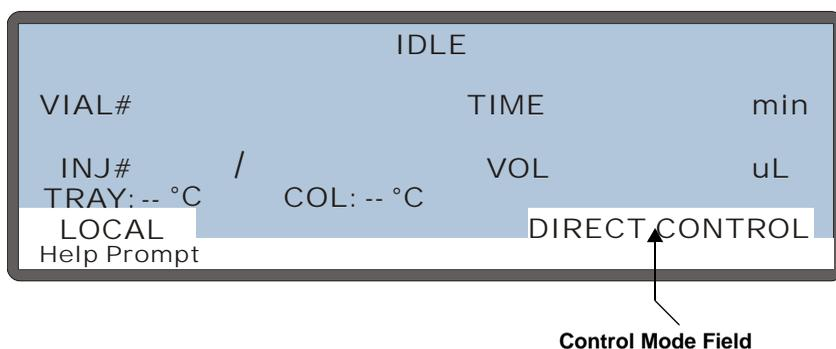

Figure 3-10. Main Status Screen—Direct Control Mode
2. Position the cursor in the control mode field and press **Select** Δ or **Select** ∇ to toggle to **DIRECT CONTROL** (see Figure 3-10).